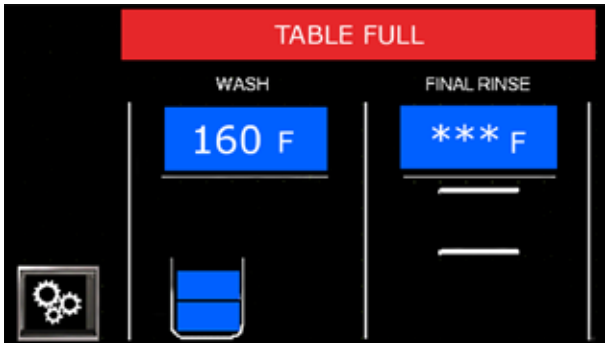

Fig. 23 - Table Full Fault
**TABLE FULL** The unload table is full of dish racks. Remove dish racks at the end of the table. Ready appears. Press the green start button to resume normal operation, Fig. 23.